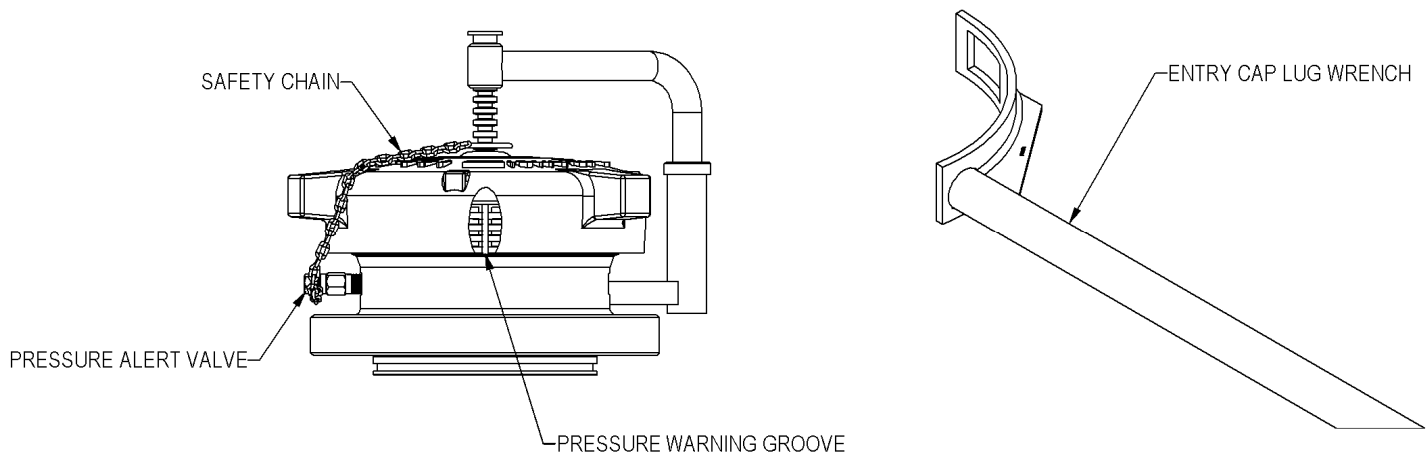

Figure 4: Argus Model 'D' Entry Cap & Lug Wrench
- 7) Slowly loosen entry cap by rotating counterclockwise using the supplied entry cap lug wrench (see Figure 4). Observe the Pressure Warning Groove area at the bottom of the threads on entry cap (see Figure 4). If there is any media flowing from this area when the entry cap is loosened, immediately re-tighten entry cap. Slowly open bleed valve to bleed remaining pressure and drain fluid from Pig Valve main body cavity. If unable to bleed all pressure from body cavity refer to the “Troubleshooting” section in this manual.